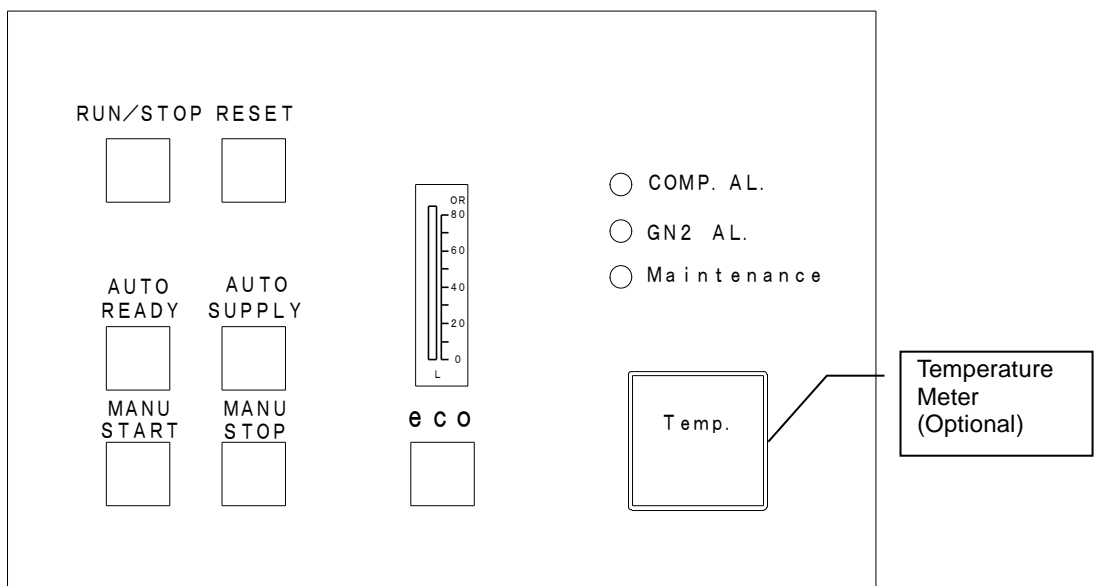

Figure 2-2 Operation panel of EMP-14A
2.2 Operation panel of EMP-14A (Figure 2-2)